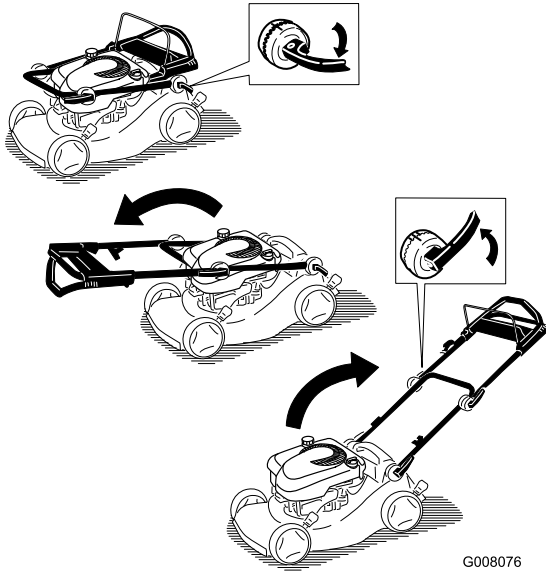

Figure 3
1. Unlock the handle locks, move the handle sections into the operating position, and lock the handle locks (Figure 3).